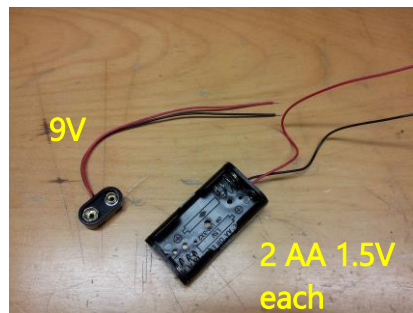
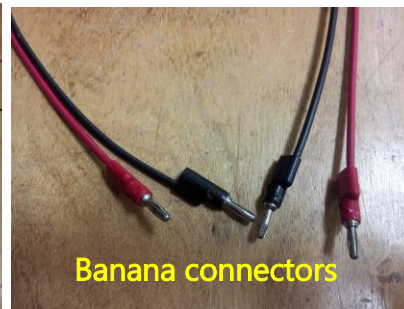

Fig.1 Battery housing
Fig.2 Banana connectors
- If the circuit is battery powered, proper battery housing as shown in Fig.1 with wire extension is the easiest to use. If using HP6236B power supply to a large breadboard, then cables with banana connectors shown in Fig.2 are easy to use. For E80 small breadboard without separate banana connectors, then simple wires are easiest to connect power supply. It's a good practice to keep consistent color coding, such as red for power, black for ground, and another color for negative power if using both polarity.